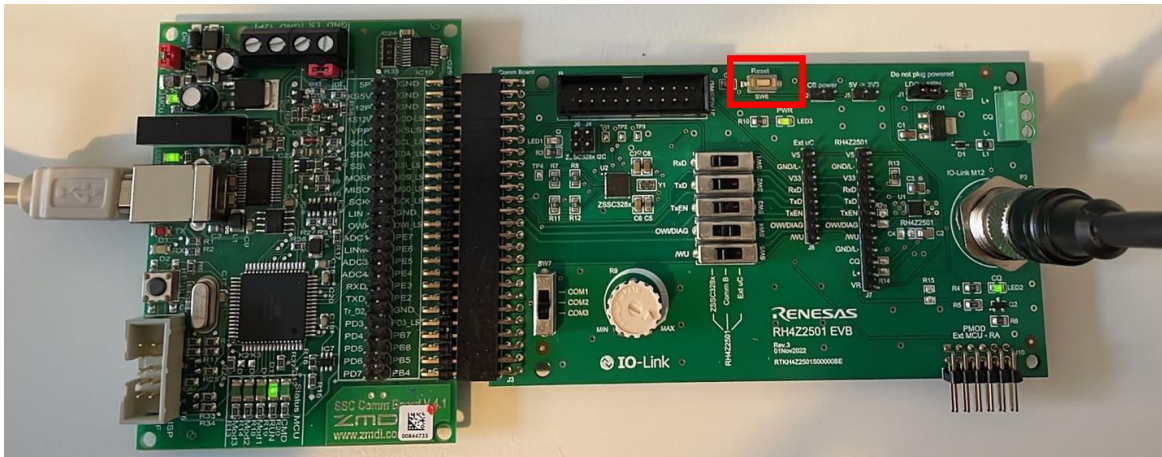

Figure 10. Reset by SW6
- b. Press Switch 6 to reset the ZSSC328x firmware, see Figure 10.